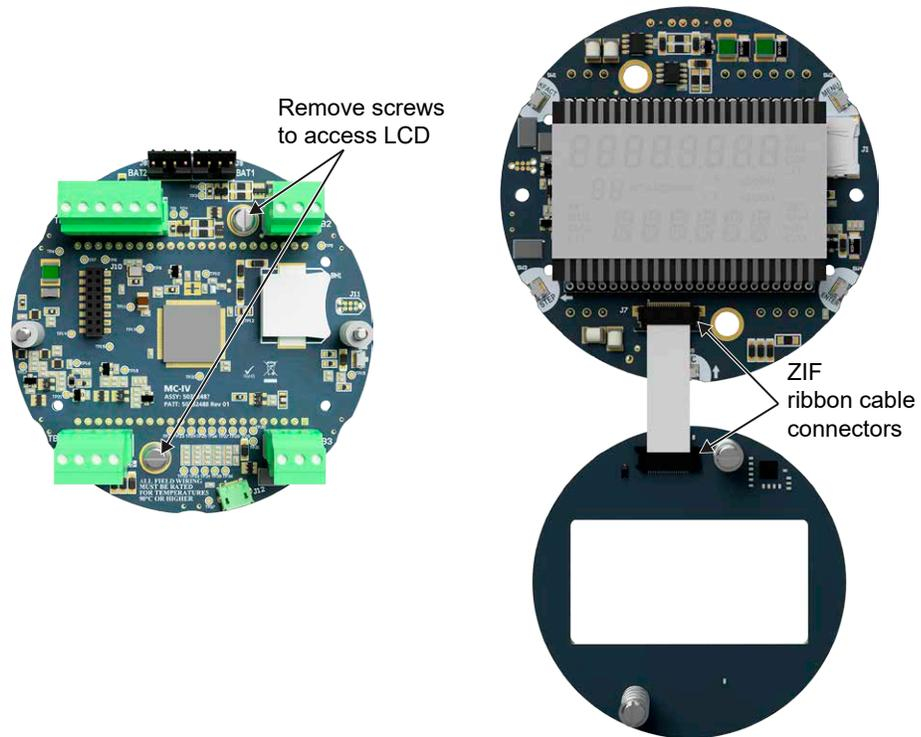

Figure 4.6—Disassembly of circuit board assembly
7. Remove the two #4-40 × 5/16" screws fastening the circuit assembly to the display assembly (Figure 4.6).